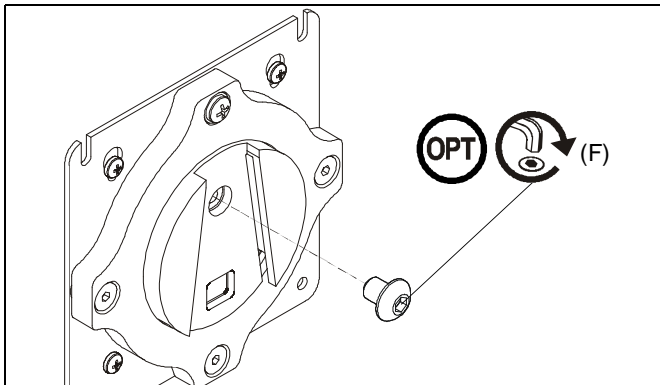

Figure 6
NOTE: (Optional) Rotational adjustment may be locked by installing rotational locking screw (F) into back of faceplate. (See Figure 6)
1. The monitor may be adjusted 90 degrees in either direction in order to provide a portrait view of the monitor. (See Figure 6)
2. Use 3/16" hex key (H) to adjust rotational adjustment screw to adjust rotational tension. (See Figure 6)